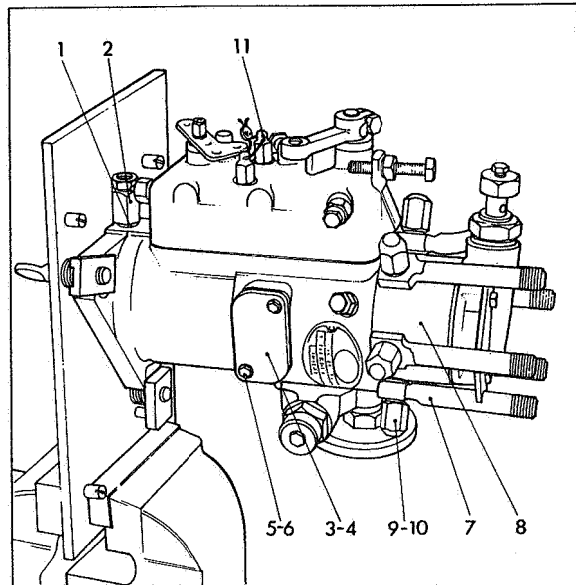

Fig 67 Assembled pump
Assemble drain connection washer (1) Fig 67 to drain connection (2) and screw connection into pump housing. Assemble inspection cover plate and inspection cover plate gasket (3 & 4) to pump housing and secure with cover plate screws and washers (5 & 6). Tighten screws and connections to correct torque values.